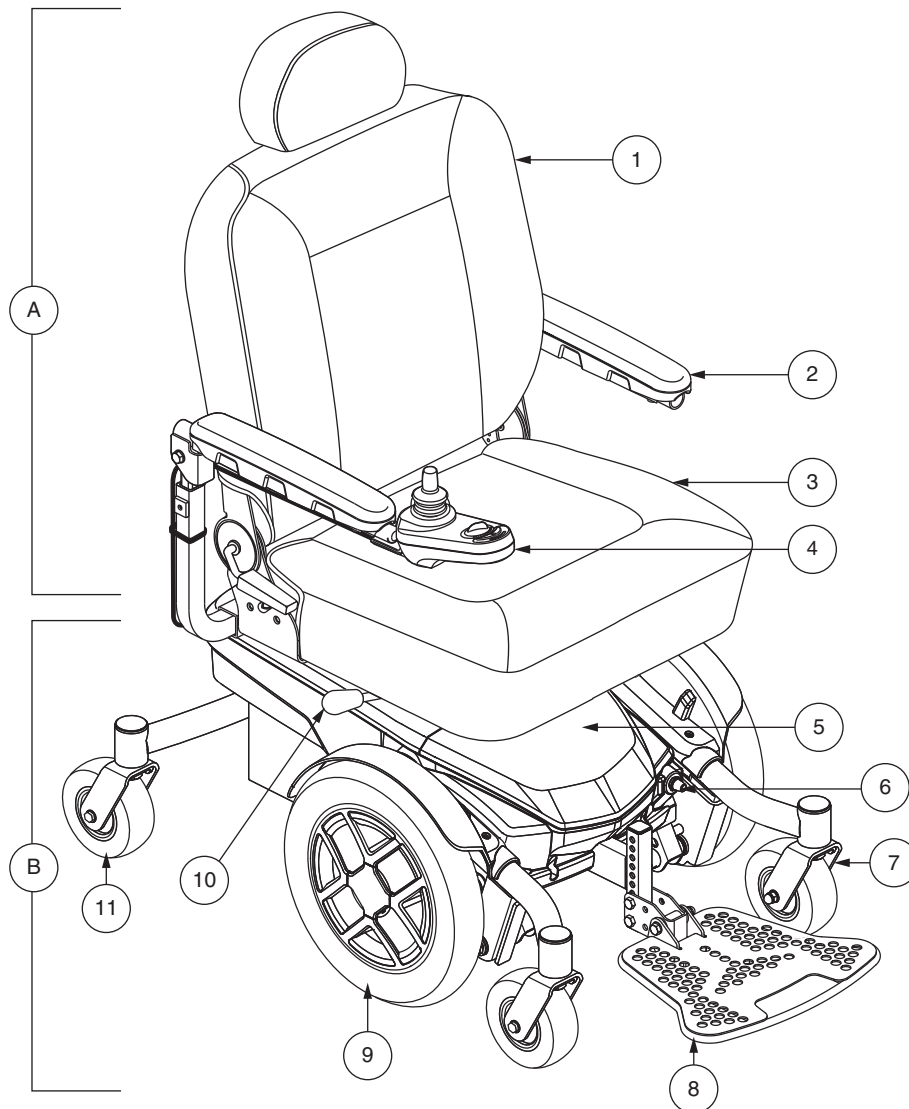

Figure 1. The Jazzy EVO 613 Power Chair
The Jazzy EVO 613 Power Chair has two main assemblies: the seat assembly (A) and the power base assembly (B). See figure 1. Typically, the seat assembly includes the armrests, seatback, and seat base. The power base assembly includes two motor/brake assemblies, two drive wheels, two batteries, and wiring harnesses. See figures 1, and 2.
If your power chair is equipped with a manual recline seatback, you can adjust the seatback angle with the seatback release lever. The lever is located on the right side of the seat base. See figure 1.